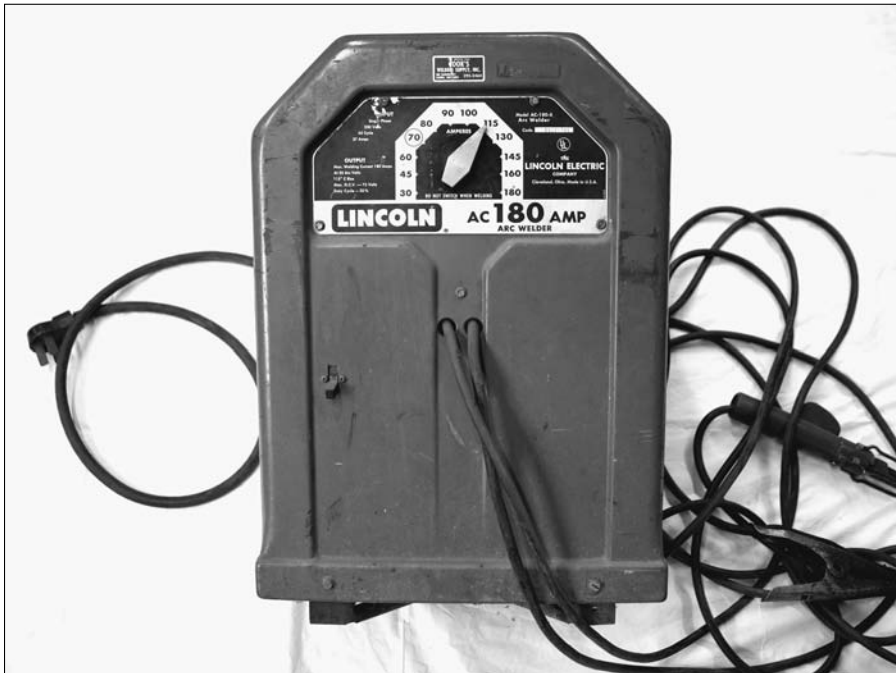

Figure 5-2:
- ✔ **Transformer** machines don't create their own source of electricity (like generator machines); instead, you have to plug them in. You can adjust the amperage of these machines in a number of ways, and the machines are very efficient; however, transformer machines provide AC current only, which means you're somewhat limited in the kinds of electrodes you can use. Many transformer stick welding machines are being replaced with DC-compatible welding power sources (generators or inverters). Figure 5-2 shows a typical transformer *buzz box*, a slang term for an AC transformer-type welder. As you can guess, the machine makes a buzzing sound when you turn it on.